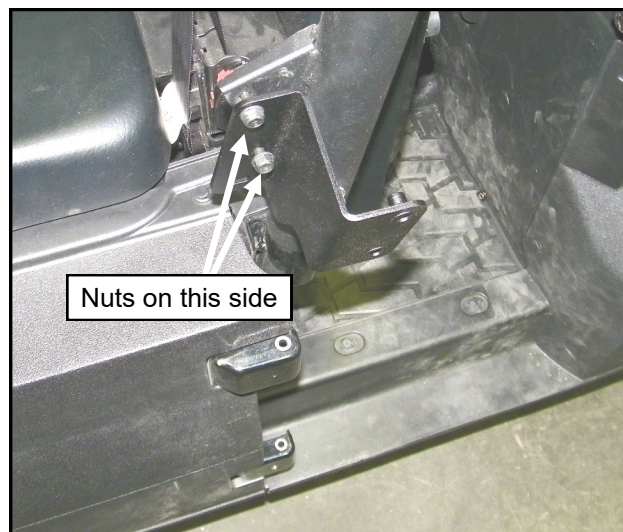

Fig. 5.1 B-pillar brackets
- 5.1** Per figure 5.1, attach the left B-pillar bracket to the front factory latch mounts on the ROPS with (2) 1/4-20 bolts and nuts, with the nuts toward the outside. Leave bolts loose. Repeat for the right side.